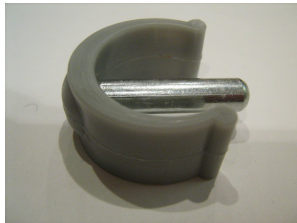

fig. 1
2. If height adjustment has to be made, ensure that the metal spindle of the E clip (see fig. 1) is fully located completely through the metal frame, there should not be a gap between the plastic horseshoe of the clip and the frame.